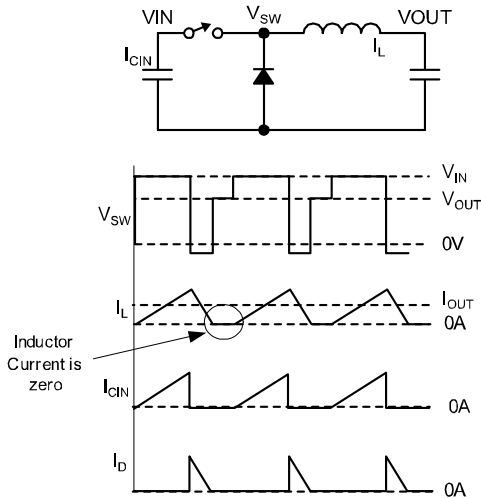

Figure 5. Discontinuous Operation
Discontinuous operation is when the inductor current discharges to zero during the off cycle. Figure 5 demonstrates the switch voltage and inductor currents during discontinuous operation.
When the inductor current (IL) has completely discharged, the voltage on the switch node rings at the frequency determined by the parasitic capacitance and the inductor value. In Figure 5, it is drawn as a DC voltage, but to see actual operation (with ringing) refer to the functional characteristics.